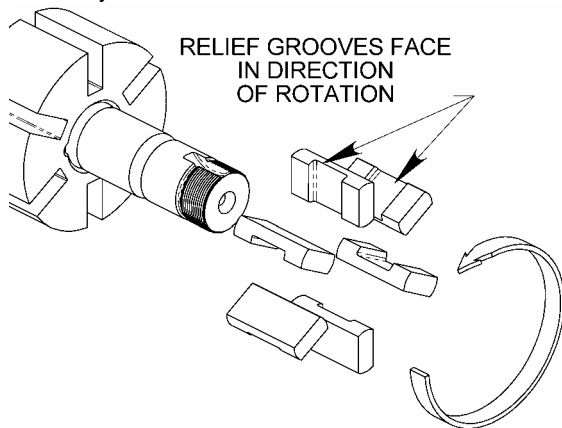
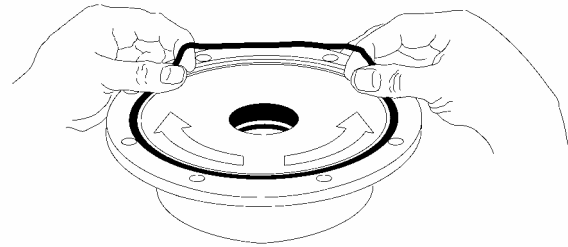

Figure 6 – Vane Replacement
Figure 7 Head O-ring Installation
3. Turn the shaft by hand until a vane (14) comes to the top (12 o'clock) position of the rotor. Remove the vane.
4. Install a new vane (14), ensuring that the relief groove is facing toward the direction of rotation. See Figure 6.
17. Insert the vanes (14) into the slots in the rotor, ensuring that the relief groove is facing toward the direction of rotation See Figure 6
18. Apply a light coating of quality O-ring lubricant in the seal and bearing recess of the head (20) to facilitate mechanical seal (153) installation.
23. Align the notch in stationary seat (153B) with the anti-rotation pin in the head (20). Insert it into the seal recess with the polished face inward to mate with the rotating face.
24. Hand pack the ball bearing (24) with grease. Refer to "Lubrication" in the Pump Maintenance Section for the recommended grease.
25. Install the bearing (24) into the head recess. The bearing balls should face outward, with the grease shield inward. Ensure that the bearing (24) is fully and squarely seated against the mechanical seal (153).
26. Apply a small amount of quality O-ring lubricant to the O-ring groove on the inside face of the head and install a new head O-ring (72) in the groove by laying the O-ring flat and starting in on one side of the groove, stretching ahead with the fingers, as shown in Figure 7.